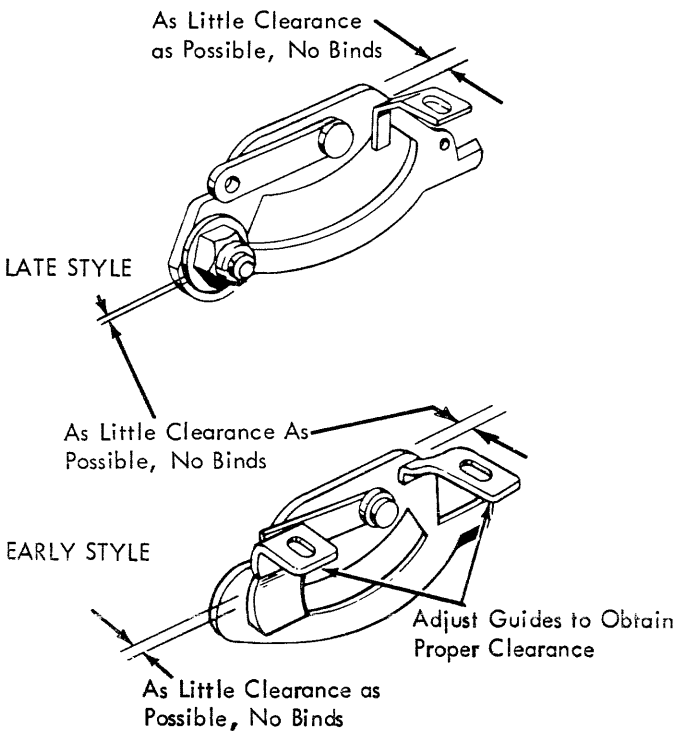

FIGURE 51. Rotate Detent Guides
6. Rotate Detent - Adjust the front and rear guides so that the rotate detent will operate freely with no side play (Fig. 51).